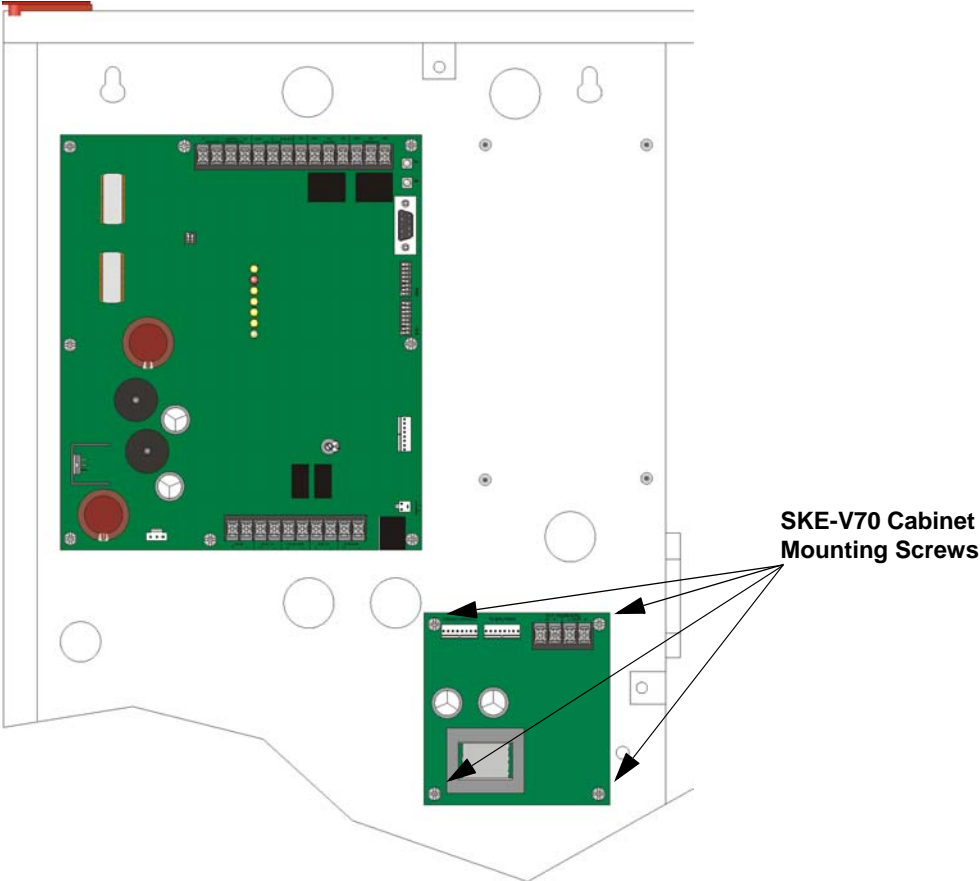

Figure 7-2 Main Control Board Mounting Location
4. Mount the module into the cabinet as shown in Figure 7-2.